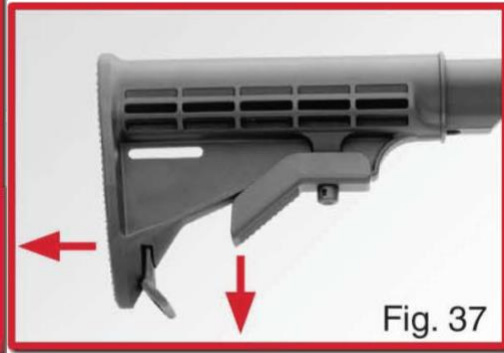

Fig. 37
6. Clean the buttstock as necessary. The 6 position tele-stock can be disassembled by pulling down the tele-stock latch and pulling the stock off (Fig. 37). Clean the 6 position lock holes, lightly lubricate the receiver extension and latch and reassemble.